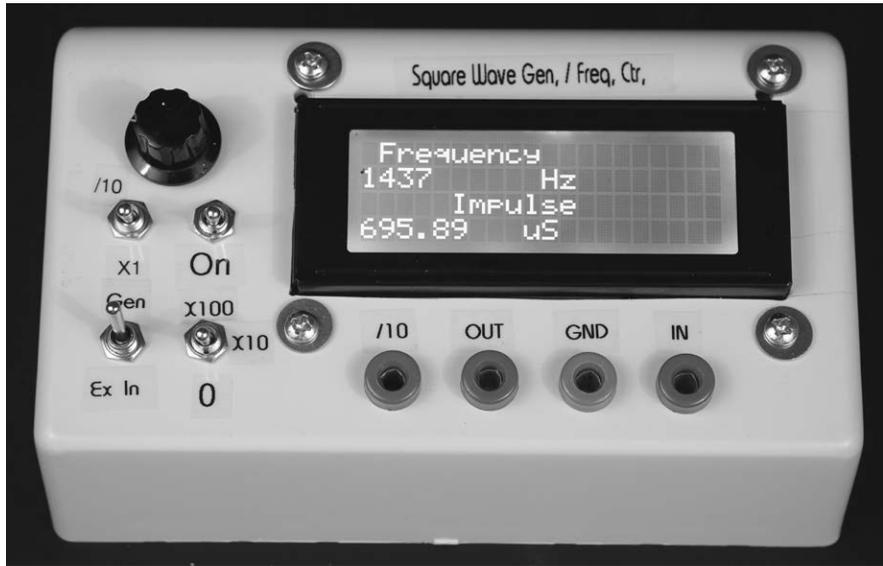

Figure 9-1: The completed Square-Wave Generator
Signal generators, also called waveform generators or function generators, create an alternating current (AC) voltage that can be used in a variety of electronic tests and diagnostic procedures. A *square-wave generator* like the one you will build in this chapter (shown in Figure 9-1) is an electronic lab instrument that creates a continuous sequence of equally spaced pulses of electricity that are on for a certain amount of time, switch off for an equal duration, and switch back on again, repeatedly.